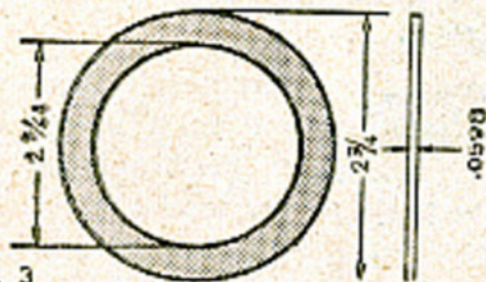

Fig. 3
ground down to the diameter shown or (3) follow the dimensions in Fig. 3. and make the washer from scratch.
See Fig. 3 for a quick field fix for a broken or lost spring pin.
Fig. 3—Here's a quick field fix for a lost or busted spring bolt. If you don't have a bolt and nut, use a punch or a chisel of similar size. Jack up the vehicle to take the weight off the spring and line up the hole in the spring with the hole in the hanger. Install punch, or chisel, let the jack down, and wrap wire around to hold the new pin in place.